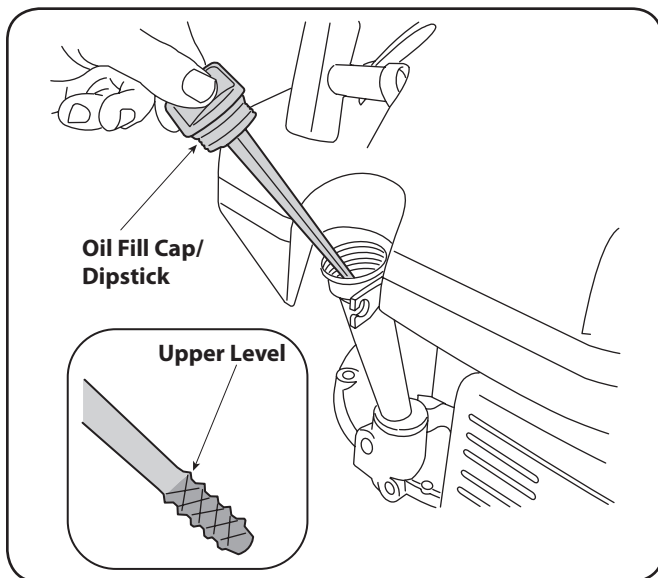

Figure 10-2
1. Remove the oil filler cap and wipe the dipstick clean. See Fig. 10-2.
3. If the level is low, slowly add oil to the upper limit on the dipstick. See Fig. 10-2 inset.